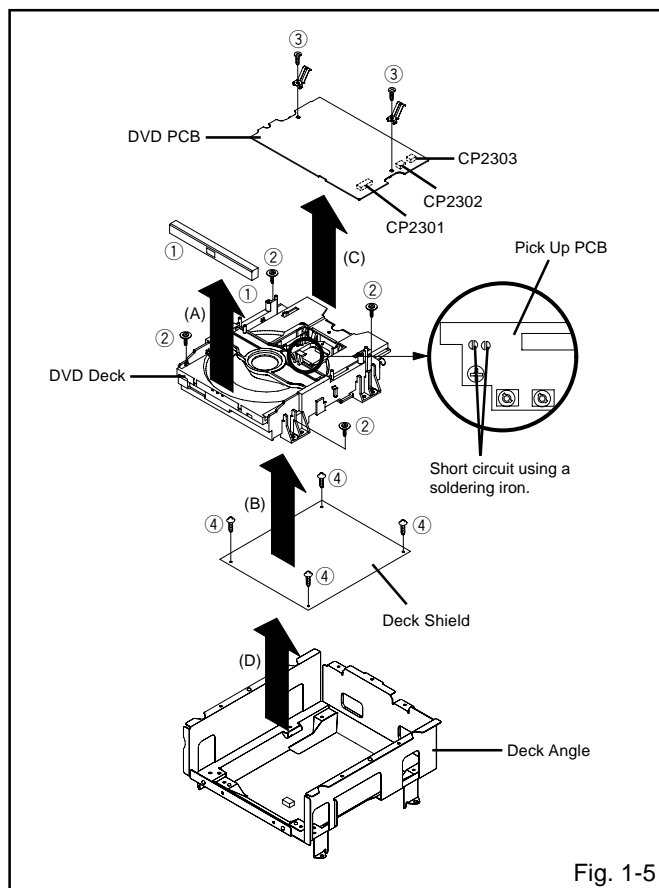

Fig. 1-5
### 1-5: DVD PCB/DVD DECK (Refer to Fig. 1-5)
1. Short circuit the position shown in **Fig. 1-5** using a soldering iron. If you remove the DVD Deck with no soldering, the Laser may be damaged.
2. Unlock the 2 supports ①.
3. Remove the Front Tray Plate in the direction of arrow (A).
4. Remove the 4 screws ②.
5. Remove the DVD Deck in the direction of arrow (B).
7. Remove the 2 screws ③.
8. Remove the DVD PCB in the direction of arrow (C).
9. Remove the 4 screws ④.
10. Remove the Deck Shield in the direction of arrow (D).